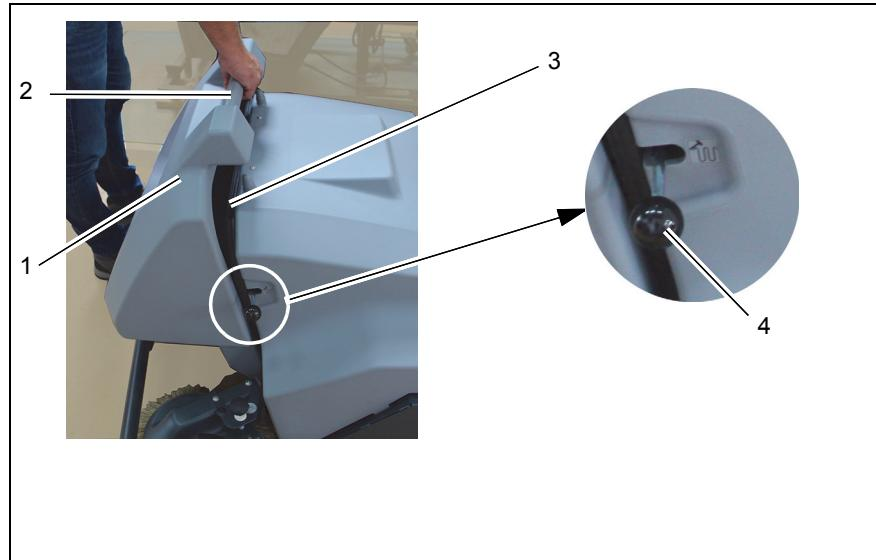

Fig. 6
2. Pull the dirt hopper (Fig. 6/1) upwards using the handle (Fig. 6/2) and dispose of the contents in an environmentally friendly way.
Inspect the dirt hopper seal (Fig. 6/3) weekly and replace if wear is present.
Clean the filter multiple times per day using the shaking system (Fig. 6/4).